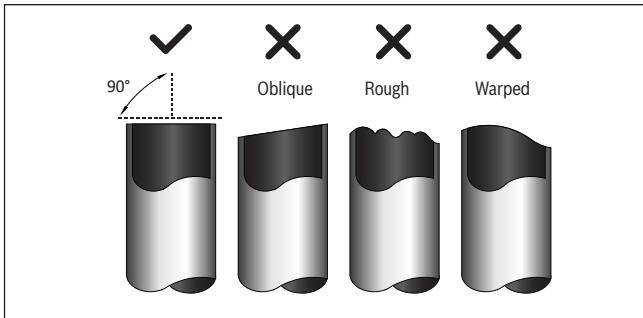

Fig. 28.
1. Ensure that the pipe is cut at a perfect 90° angle. Refer to Fig. 28 for examples of bad cuts